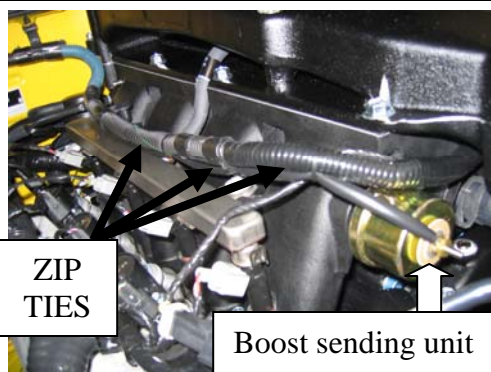

Figure 8
7. Route the boost pressure wire along the stock harness near the passenger side fuel rail and connect the ring terminal onto the boost pressure sending unit on the passenger side front corner of the supercharger (FIGURE 8). There you will find a threaded plug, which you have to remove with an 11mm socket.